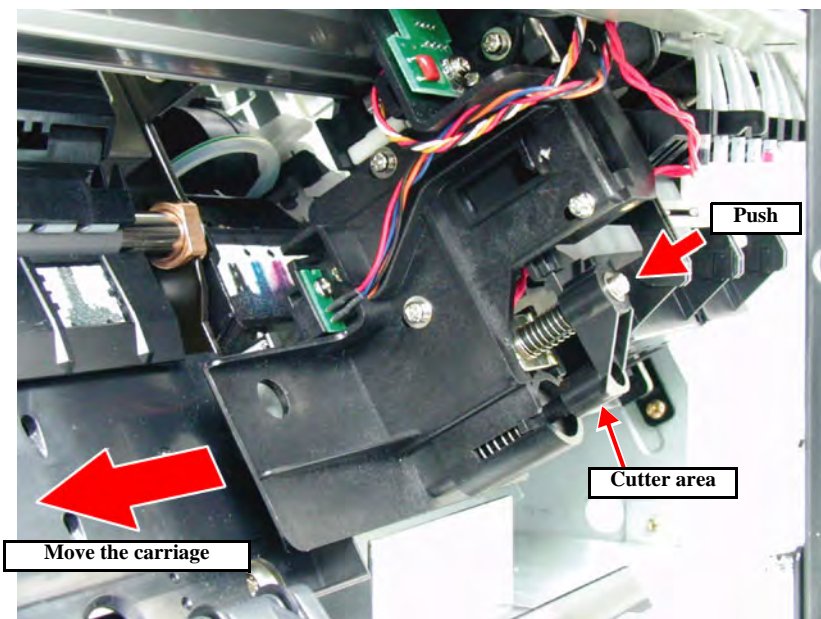

Figure 4-24. Carriage Lock Release
2. While pushing the cutter area gently, shift the carriage to the left about 2 cm to unlock the carriage and then move the carriage to the printer center. (See Figure 4-24)
5. While pushing the cutter area gently, shift the carriage to the left about 2 cm to unlock the carriage and then move the carriage to the printer center. (See Figure 4-24)